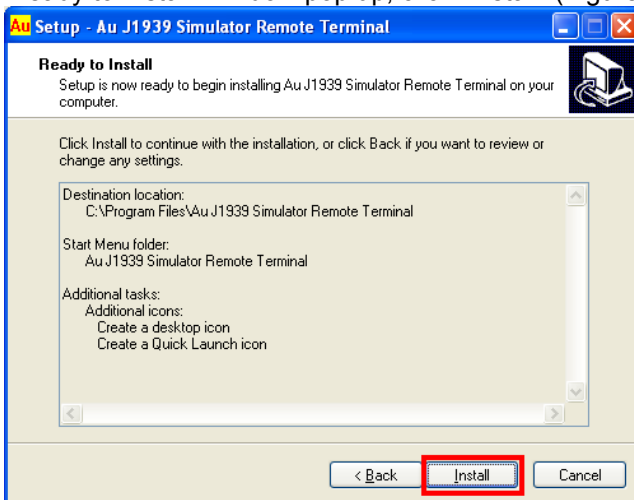

Figure A-8
8. "Ready to Install" window pop up, click "Install" (Figure A-8)